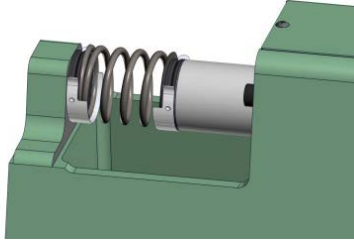
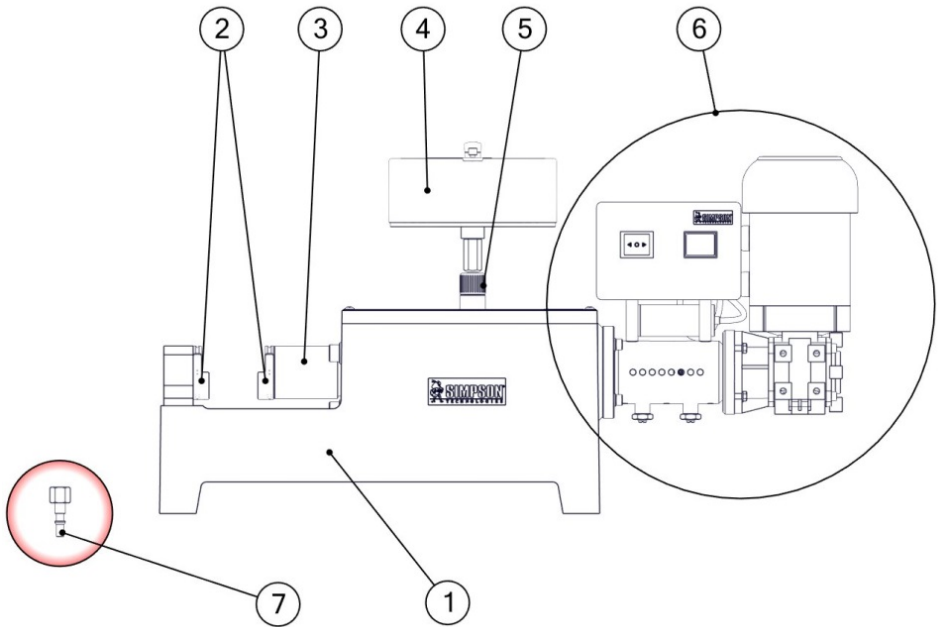

Figure 6.4.2
Figure 7.1: Front View
1. Take the pressure gauge off of the top of the Universal Strength Machine by simply unsnapping it from the Plug Coupling (Item 5, Figure 7.1).
2. Snap the Connecting Pin (Item 8, Figure 7.1) into the Plug Coupling where the pressure gauge is normally mounted. Use of a funnel is also recommended. See Figure 6.3.1 below.
5. Use a wrench to unscrew the Spindle and Spindle Guide (Item 7, Figure 7.1) from the machine Base (Item 1, Figure 7.1). See Figure 6.3.2 below.
10. Crank the Rotary Handle (Item 6, Figure 7.1) all the way in by rotating it clockwise until it will not turn any further. Also, make sure that the disengaged Hydraulic Piston (Item 3, Figure 7.1) is pressed in all the way toward the Base (to the right).
2. Take a slide gauge or caliper (not provided) to measure the spring length before you place the spring into the apparatus between the Compression Strength Accessories (Item 2, Figure 7.1). Record the length of the spring.
- Put the spring in the apparatus between the two Compression Strength Accessories without any pressure applied. To ensure no pressure is applied, turn the Rotary Wheel (Item 6, Figure 7.1) counterclockwise to open the Compression Strength Accessories. See Figure 6.4.2 below.
- Now, turn the Rotary Handle clockwise until the pointer on the pressure gauge (Item 4, Figure 7.1) reaches 5 N/cm² on the outer scale for compression strength. Use a slide gauge to measure the spring distance between the Compression Strength Accessories. Record the measurement in the diagram at 5 N/cm².